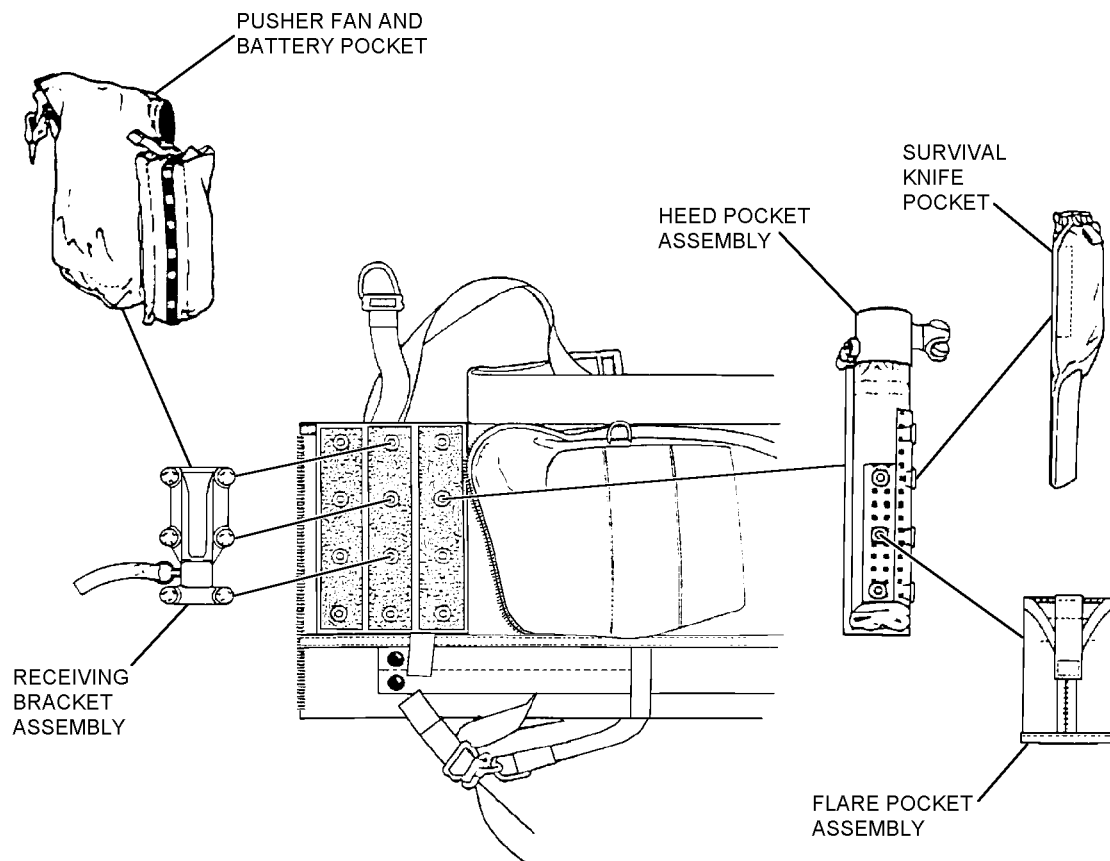

Figure 6-30. Attachment of CMU-23A/P Survival Vest CBR Components
6. Lay CMU-23A/P Survival Vest on flat surface with snap fastener panel facing up and on left. See figure 6-30.